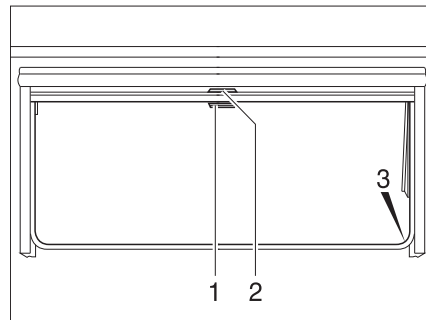

Fig. 44 Hinged window
- Pull blind at the handle (Fig. 44,2) downwards. If the blind is to be completely closed, it is suspended into the locking devices (Fig. 44,3) situated on both sides of the window frame.
- If the blind is completely closed: Press the handle (Fig. 44,2) downwards and, at the same time, tilt it slightly inward. The blind can be taken out of the locking devices situated on both sides of the window frame.
- If the blind is in an intermediate position: Pull the handle (Fig. 44,2) slightly downwards until the locking device releases.
- Pull the roller insect screen at the handle (Fig. 44,1) downwards and hang it into the locking devices (Fig. 44,3) situated on both sides of the window frame.
- Press the handle (Fig. 44,1) downwards and, at the same time, tilt it slightly inward. The roller insect screen can be taken out of the locking devices situated on both sides of the window frame.